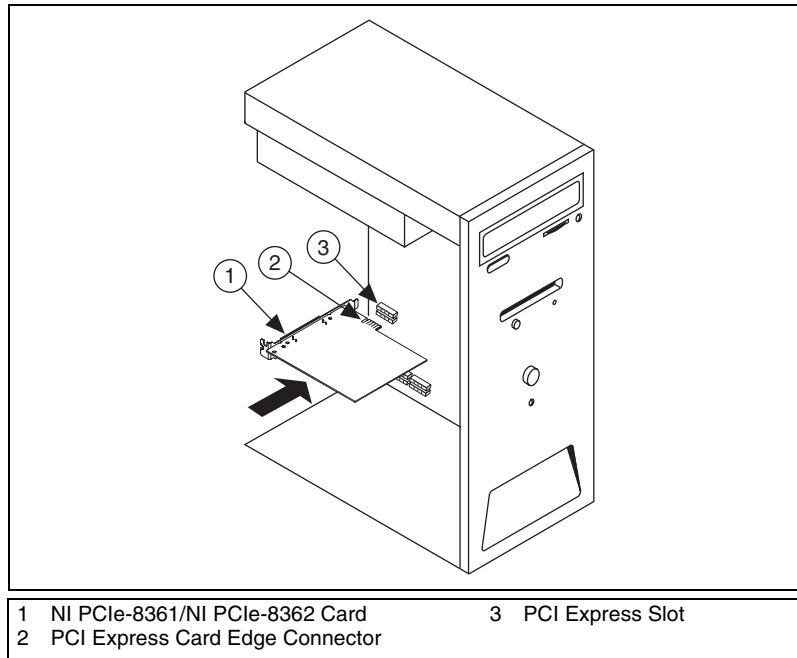

Figure 2-1. Installing the NI PCIe-8361/NI PCIe-8362
6. Line up the NI PCIe-8361/NI PCIe-8362 with the slot on the back panel. Slowly push down on the top of the NI PCIe-8361/NI PCIe-8362 until its card-edge connector is resting on the expansion slot receptacle. Using slow, evenly distributed pressure, press the NI PCIe-8361/NI PCIe-8362 straight down until it seats completely in the expansion slot, as shown in Figure 2-1.